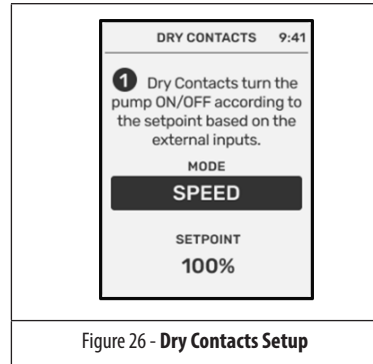

Figure 26 - Dry Contacts Setup
- Speed mode: Can be adjusted within the configured minimum and maximum speed setpoints (%) (Fig. 26).